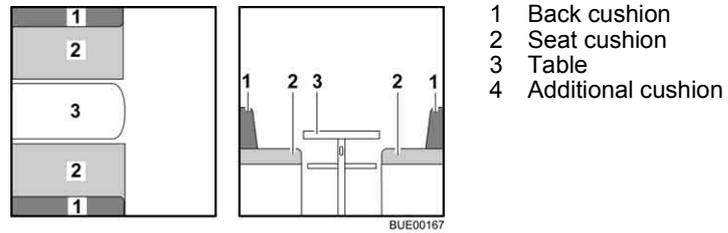

Fig. 89 Prior to conversion
- Convert the table (Fig. 89,3) to a bed foundation (see section 6.11).
- Remove the back cushions (Fig. 89,1) and lay them aside.